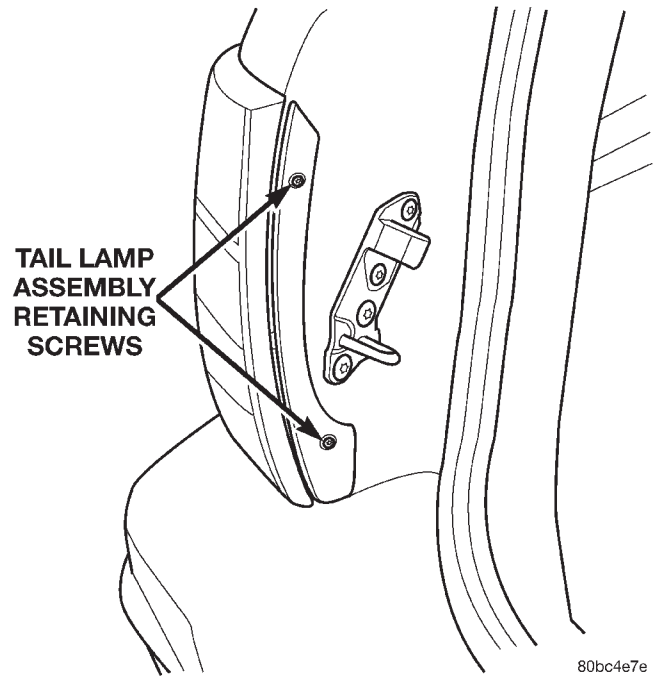

Fig. 16 Tail Lamp Retaining Screws
(2) Position the tail lamp, trim panel and install the retaining screws (Fig. 16).